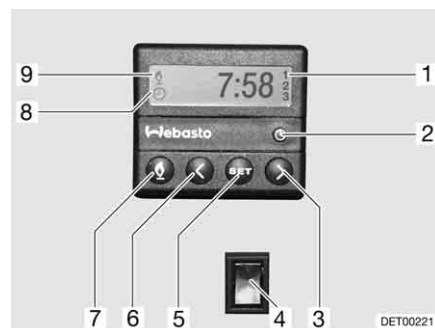

Fig. 199 Operating unit for independent vehicle heater
- Press the button (Fig. 199,7). The heating mode is displayed by the symbol (Fig. 199,9). The fan will only be switched on when there is a coolant temperature of 30 °C.
- Press the button (Fig. 199,7). The symbol (Fig. 199,9) goes off.
- Press the lower part of the switch (Fig. 199,4). Engine is preheated. The fan is switched on immediately.
- Press the upper part of the switch (Fig. 199,4). Engine stays cold.
- Press the button (Fig. 199,2). The time setting is displayed by the symbol (Fig. 199,8).
- Set the time with the buttons (Fig. 199,3 and 6).
- Press the button (Fig. 199,5).
- Set the switching on time within ten seconds, with the buttons (Fig. 199,3 and 6).
- Keep pressing the button (Fig. 199,5) until the selected programme number (Fig. 199,1) appears in the display.